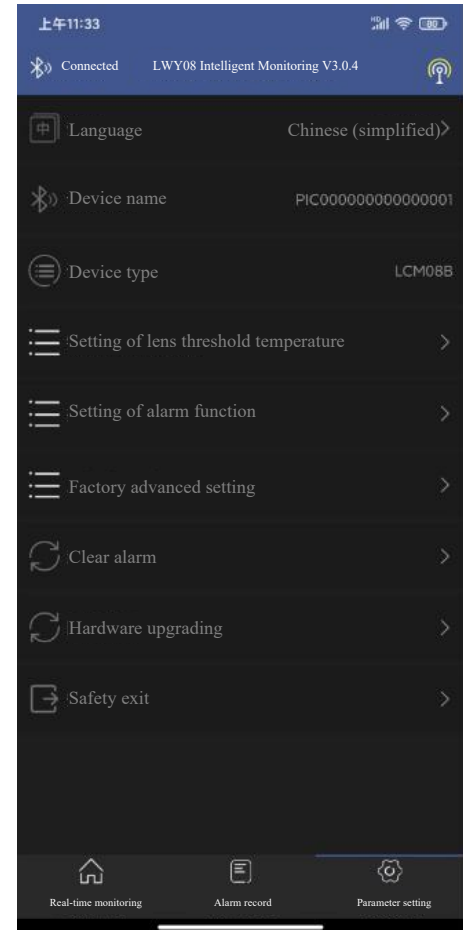

Figure 2.9
- ② Click the "Start Scanning" button. If nothing is displayed, click it for another more times, as shown in Figure 2.9.
- ③ After the device is scanned, select the device to connect and click the [Connect Device] button, and then the mobile phone can communicate with the device in real time, as shown in Figure 2.9.